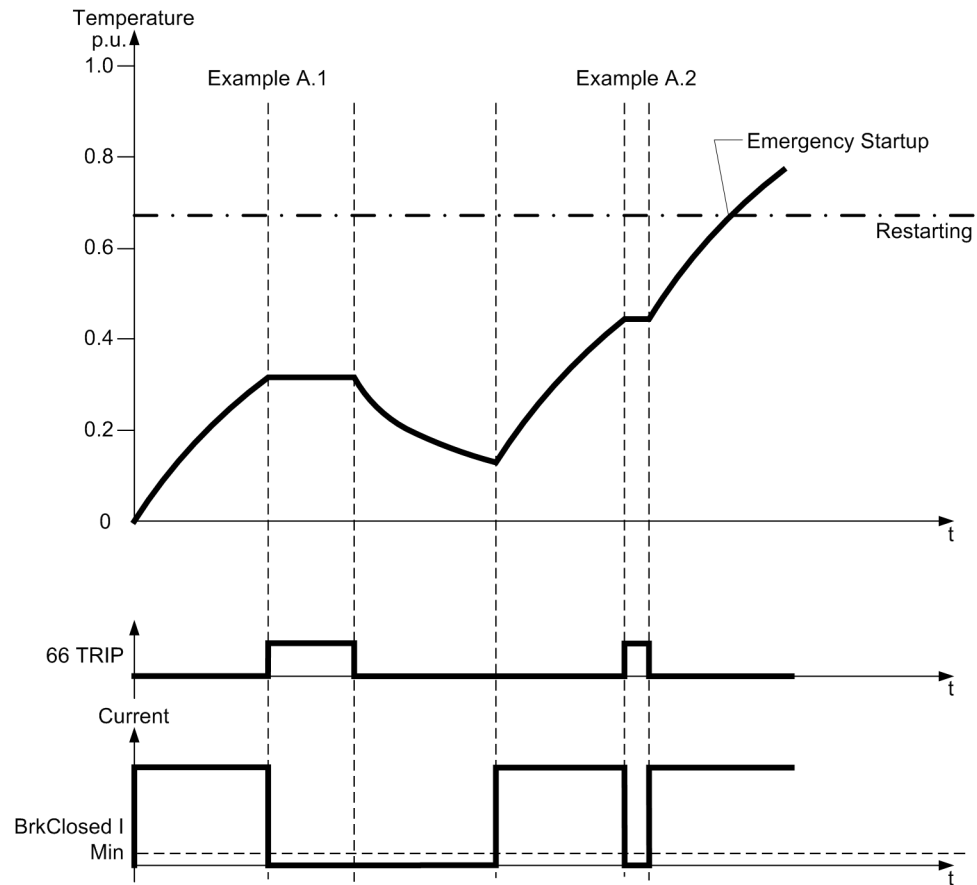

Figure 2-52 Startups according to examples A.1 and A.2
1. A normal startup brings the machine into a temperature range below the thermal restarting limit and the machine is stopped. The stop launches the equilibrium time 4304 **T Equal** and generates the message „66 TRIP“. The equilibrium time expires and the message „66 TRIP“ is cleared. During the time **T Equal** the thermal model remains "frozen" (see Figure 2-52, to the left).
2. A normal startup brings the machine into a temperature range below the thermal restarting limit, the machine is stopped and is started by an emergency startup without waiting for expiry of the equilibrium time. The equilibrium time is reset and the thermal profile is released and „66 TRIP“ is reported to be cleared (see Figure 2-52, to the right).